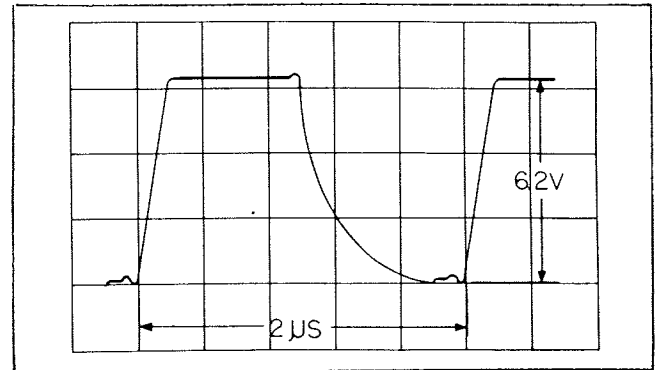

Figure 6.11 - Q3, Collector Waveform
e. Reconnect oscilloscope to collector of 500 KC multivibrator stage Q3 (or top of R7). The observed waveform should resemble that shown in figure 6.11.